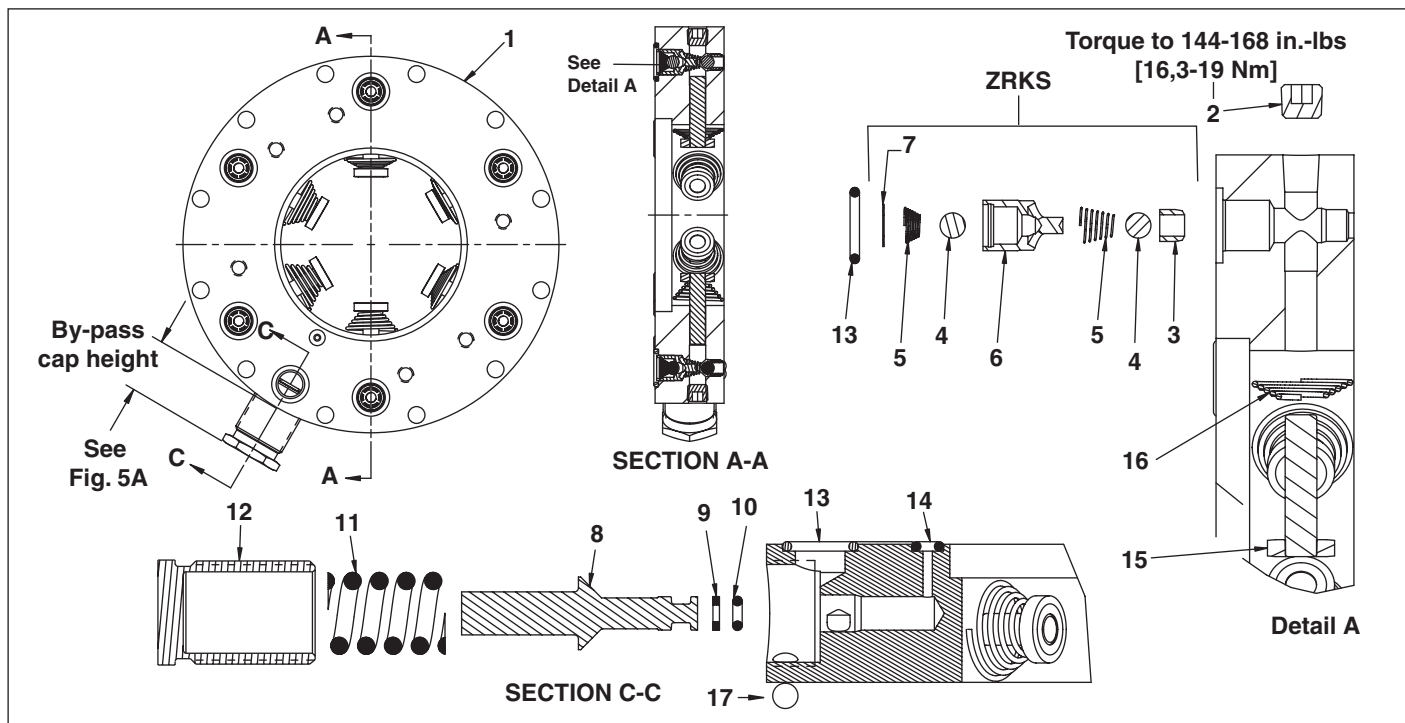

Figure 4, Piston Ring Assembly (6 Piston Shown)
Repair Parts List for Figure 4 (Note: part quantities will vary - quantities for 6 piston shown)
◆ Use bypass end cap DC9208020 (Figure 4, Item 12).
* Use bypass end cap DC8373020 (Figure 4, Item 12).
▲ Use bypass end cap DC8374020 (Figure 4, Item 12).
- ◆ Use bypass end cap DC9208020 (Figure 4, Item 12).
- * Use bypass end cap DC8373020 (Figure 4, Item 12).
- ▲ Use bypass end cap DC8374020 (Figure 4, Item 12).